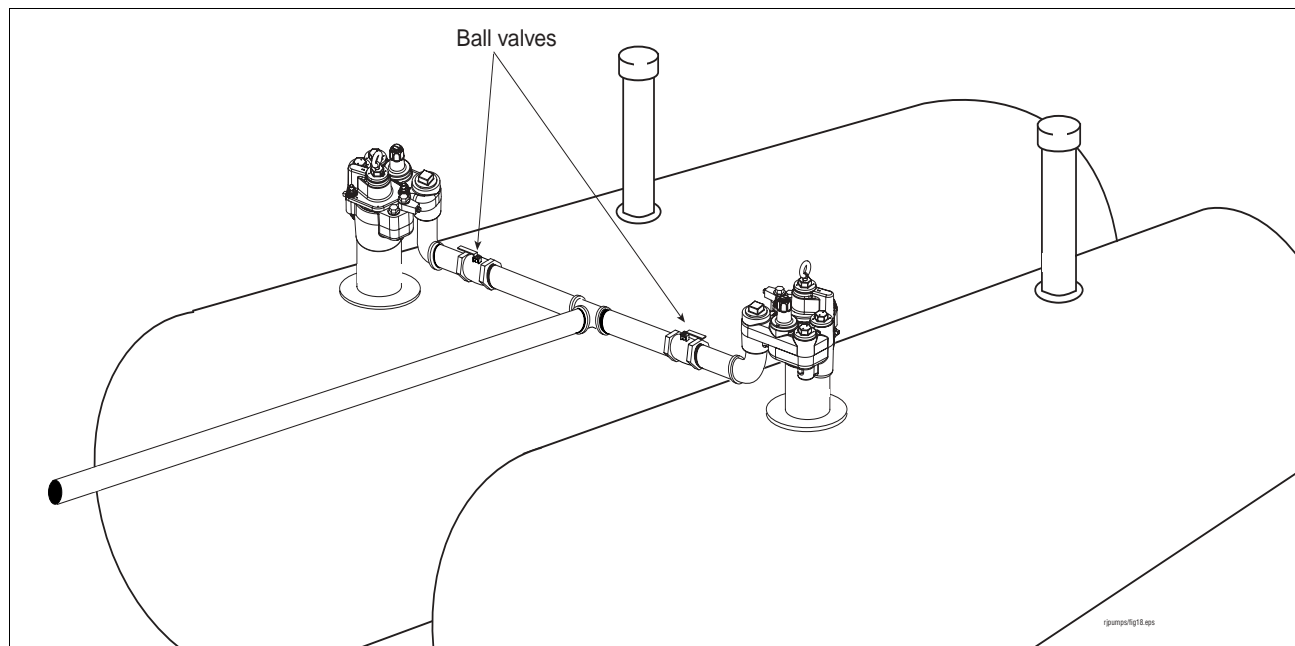

Figure 24. Tandem pumps
When greater flow rates are needed, two pumps may be installed in the same piping system by means of a manifold. If installed according to the Figure 24, tandem systems offer backup support so operations can continue if one pump stops working.
**NOTE:** Ball valves should be installed at the pump end of the discharge line for ease of maintenance and troubleshooting (see Figure 24).